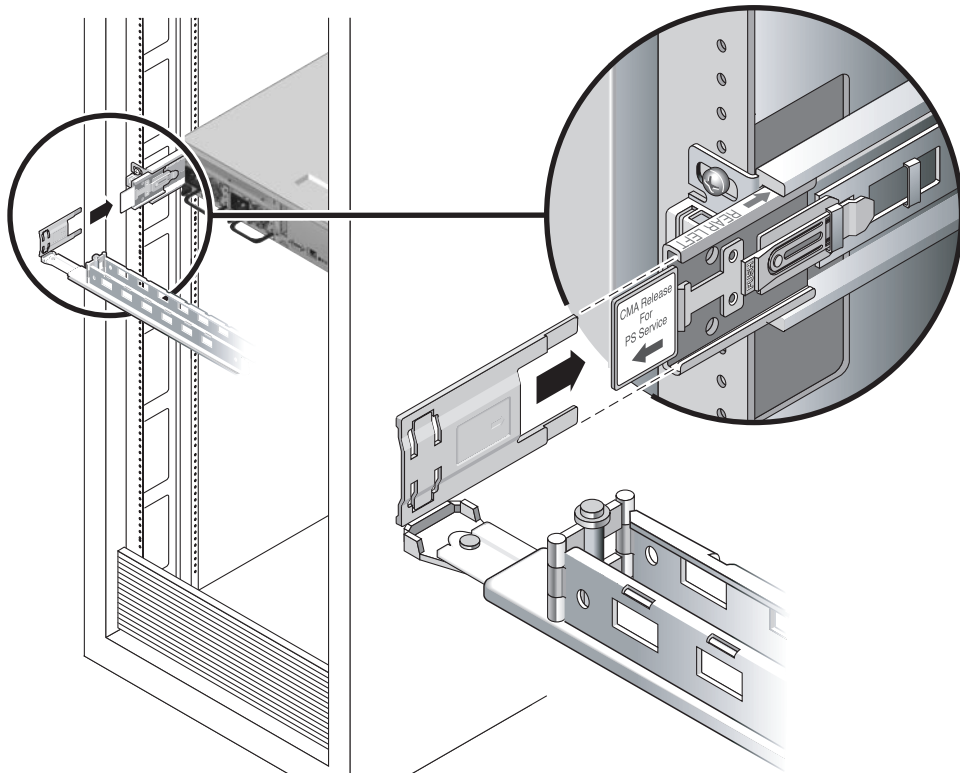

FIGURE 2-11 Mounting the Left Side of the Slide Rail
- 4. Insert the hinged plastic connector at the left side of the CMA fully into the CMA rail extension (FIGURE 2-11).**